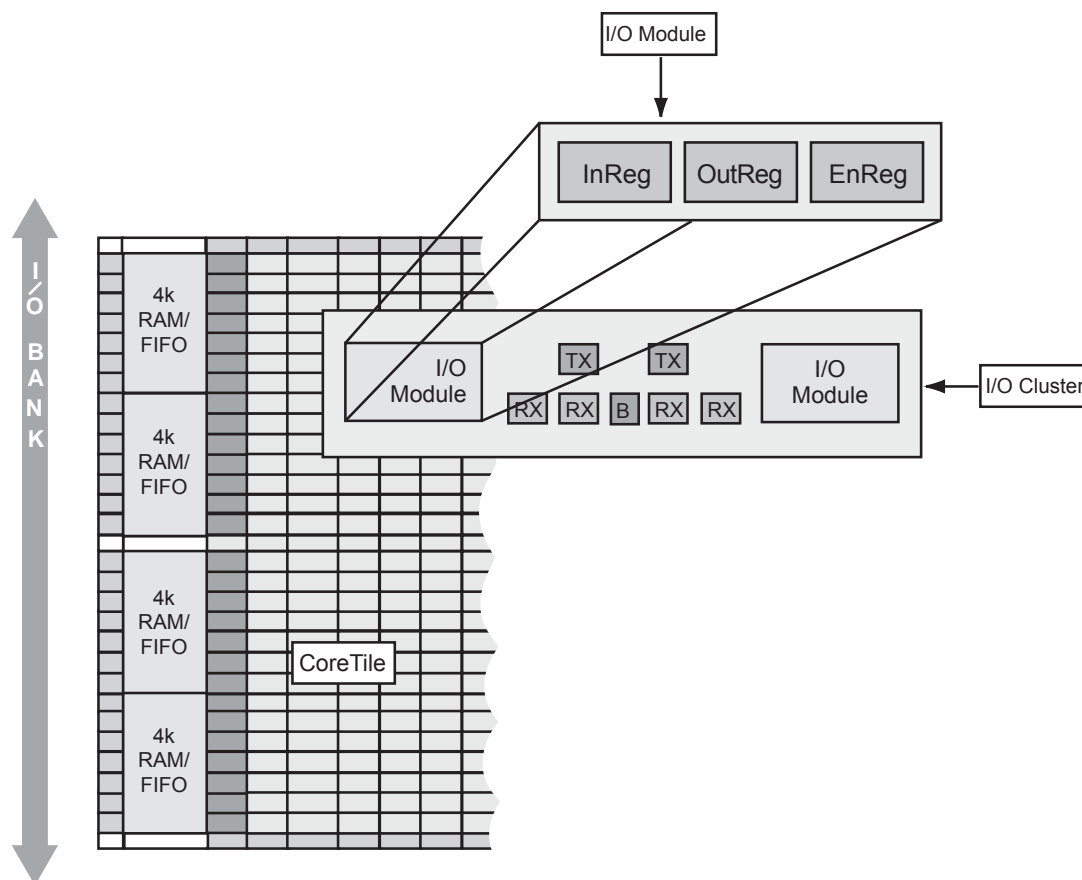

Figure 1-7 • I/O Cluster Arrangement
Each I/O module has an input register (InReg), an output register (OutReg), and an enable register (EnReg) (Figure 1-7 on page 1-5). An I/O Cluster includes two I/O modules, four RX modules, two TX modules, and a buffer (B) module.